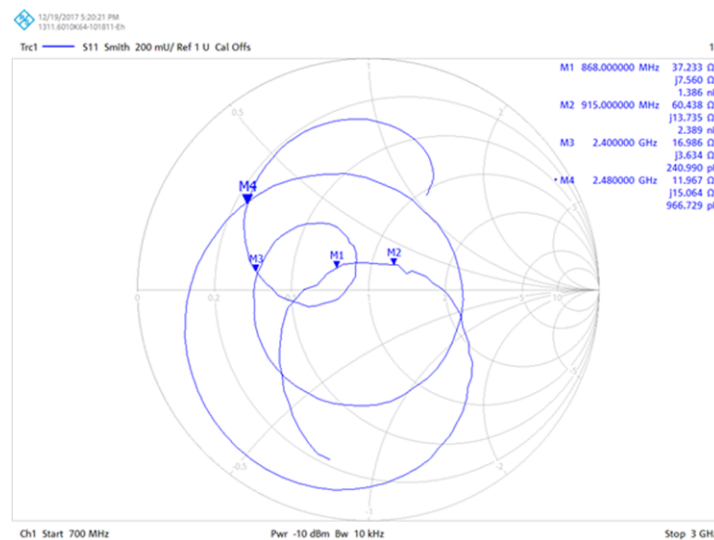
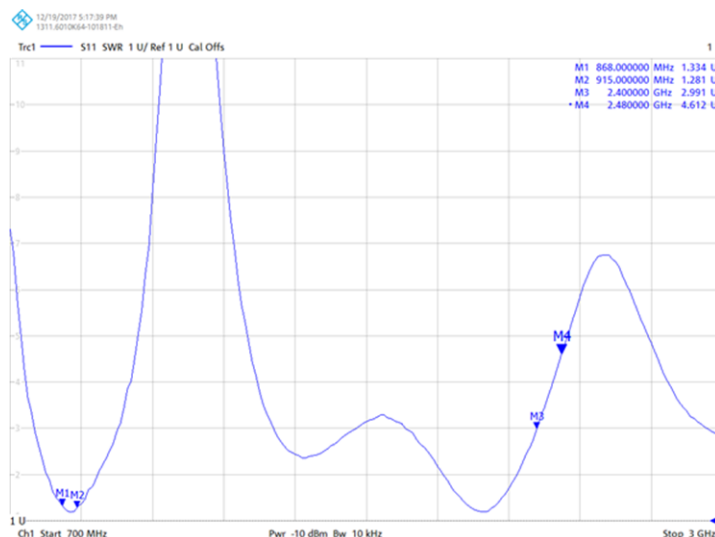

Figure 17. Smith Chart With Final Match Values of L_{HIGH} : 3.3 nH and C_{LOW} : 5.6 pF
Figure 18. VSWR Chart With Final Match Values of L_{HIGH} : 3.3 nH and C_{LOW} : 5.6 pF
- 2.44 GHz: $16 + j8$, VSWR: 3.18:1 Reasonable match at the high-band but would prefer VSWR < 2.00:1; see Figure 17 and Figure 18.